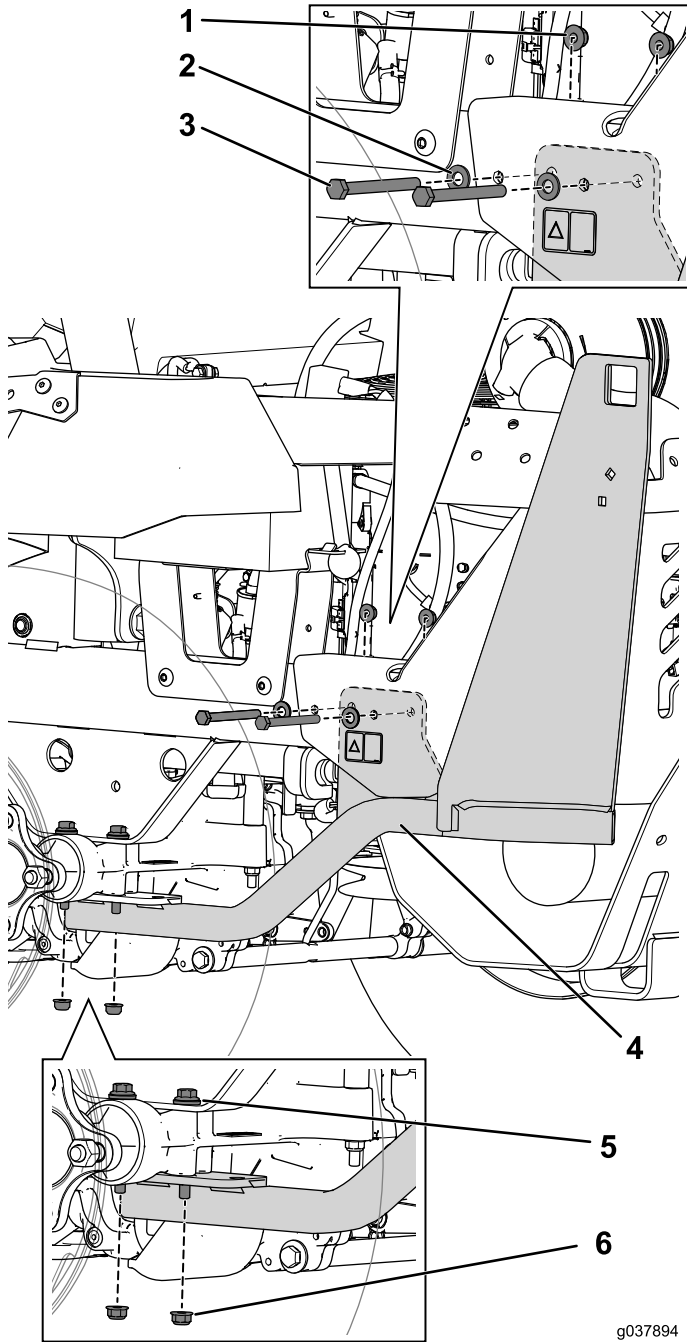

Figure 20
- Align the holes on the support to the bolts on the drive assembly and loosely install the nuts that you set aside (Figure 20).
- Use the 2 bolts (5/16 x 3-1/4 inches) and nuts to secure the support to the frame (Figure 20).